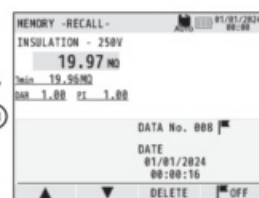

Fig. 15-6
3. The selected data is displayed. (Fig. 15-6)
Pressing the F4 switch on the data recall screen (Fig. 15-6) can put on or off the flag symbol.